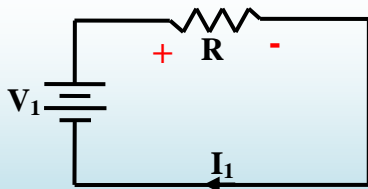

Fig. 2.38
**When the response due to source  $V_1$  alone is considered,** source  $V_2$  is replaced by a short circuit. Let the current through the resistor be  $I_1$  as in fig. 2.38.